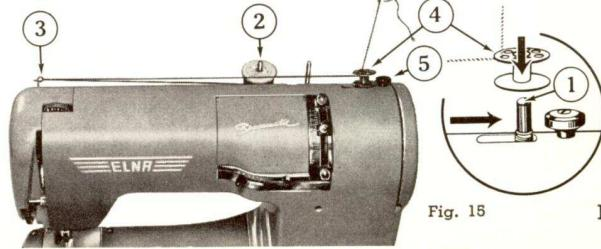

Fig. 15
Before you wind the bobbin, disengage the sewing mechanism from the flywheel by turning the coupling knob counter-clockwise (in the direction of the arrow Fig. 14). Push the bobbin winder (1) against the flywheel (see arrow, Fig. 15). Place your spool of thread on one of the spool pins (2), so that the thread will run off the spool on the side facing the machine. Pass it through the thread guide (3) and lead it back toward the spindle. Pull the thread through one of the small holes in the bobbin, from the inside (4). Place the bobbin on the spindle, so that the holes are on top and **turn it slightly until it can be pressed all the way down**. While holding the protruding end of the thread, wind a few turns of thread on the bobbin by pressing against the knee control lever. Stop and cut off the loose end next to the bobbin. Continue winding the bobbin which, when full, will stop automatically, due to the bobbin winder stop. It is advisable to press lightly with the left hand against the top of the spool of thread as the thread will thus be wound tightly and evenly. When the bobbin has been fully wound, remove it and push the bobbin winder back again (away from the flywheel). Then connect the sewing mechanism with the flywheel by turning the coupling knob clockwise in the direction opposite to that of the arrow (see Fig. 14). The machine will then be ready again for sewing.